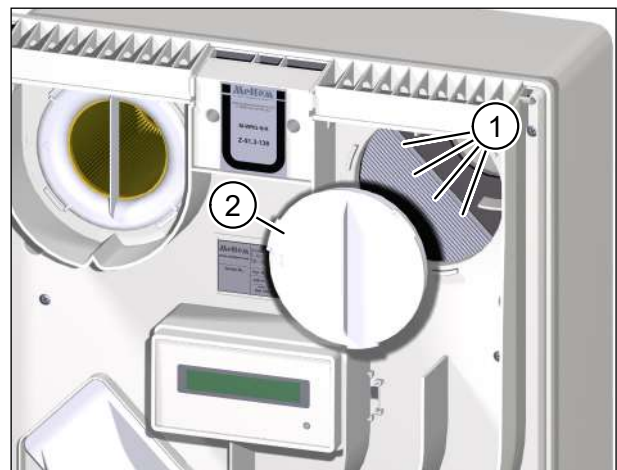

Fig. 19: Disinfect ventilation unit
- ▶ Spray the disinfectant into the supply air opening, ideally onto the heat exchanger (item 1 in Fig. 19).
- ▶ Close the supply air opening with the filter cover (item 2 in Fig. 19).